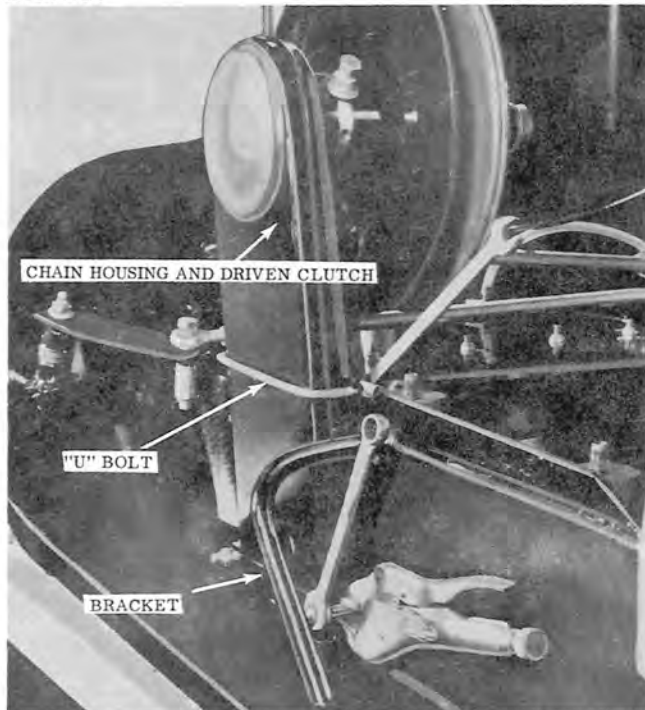

Figure 18
1. Loosen bracket located at bottom of chain housing (See Figure 18). Use vice grips to hold bolts while loosening nuts. Remove only one completely. Swing bracket back to free bottom of chain housing.
2. Remove "U" bolt completely (See Figure 18) by removing two nuts. Figure 18 shows wrenches on fasteners to be loosened and removed.